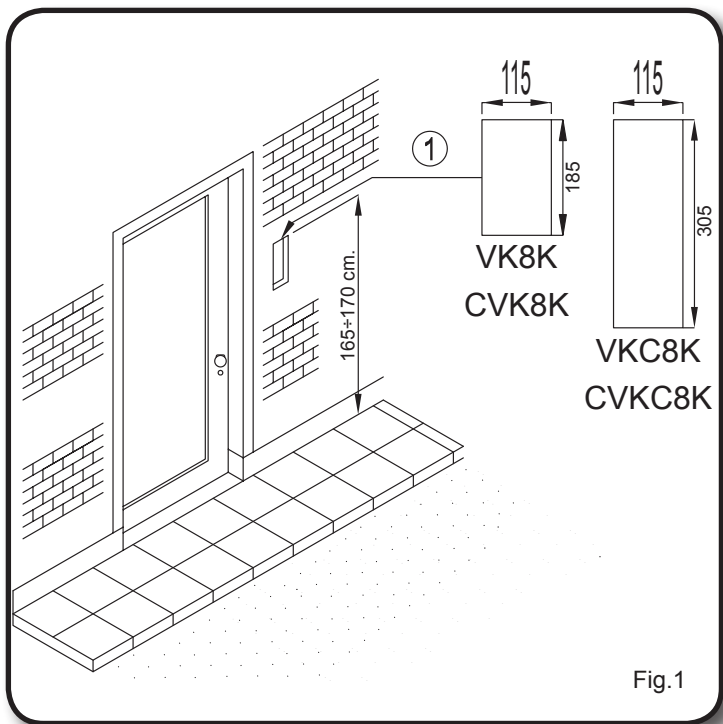

Fig.1
- Installare a filo muro, alle quote mostrate in (Fig.1 di Pagina 4), la scatola di protezione (1) utilizzando le quattro viti ad espansione (3).
- Fissare la cerniera (4) del gruppo "supporto-unità di ripresa" (8), utilizzando le viti (5).
- Ruotare il supporto (8) verso l'alto e fissarlo alla scatola, utilizzando la vite (9), l'anello distanziale (10) e la chiave a brucola (11). Ricoprire la sede della vite con il coperchio in plastica (12) in dotazione.
### Door Station location (Fig.1)
Choose the location for fixing the outdoor station ensuring that no sunlight or other bright light is allowed to shine directly into the camera lens. Make all connections following provided diagrams; prepare ducts separate from other electrical lines. For flush mounting, set the back box (1) at 165-170 cm from ground level as shown in Fig. 1.
- Flush the back box (1) into the wall at 165-170 cm from ground level (Fig.1).
- Fix the rainshield (2) by using the four screws provided (3).
- Insert the hinge (4) of the front support (8) into the back box and fix it by using the two screws provided (5).
- Rotate the support (8) and fix it to the back box with the screw (9), the plastic spacer (10) and the alan key provided (11). Mask the screw by using the plastic cover (12) provided.
- Fix surface box (1) to the wall at 165-170 cm from ground level (Fig.1 on Page 4) by using the four expansion type screws (3) provided.
- Fix hinge (4) of the front support (8) using the two screws provided (5).